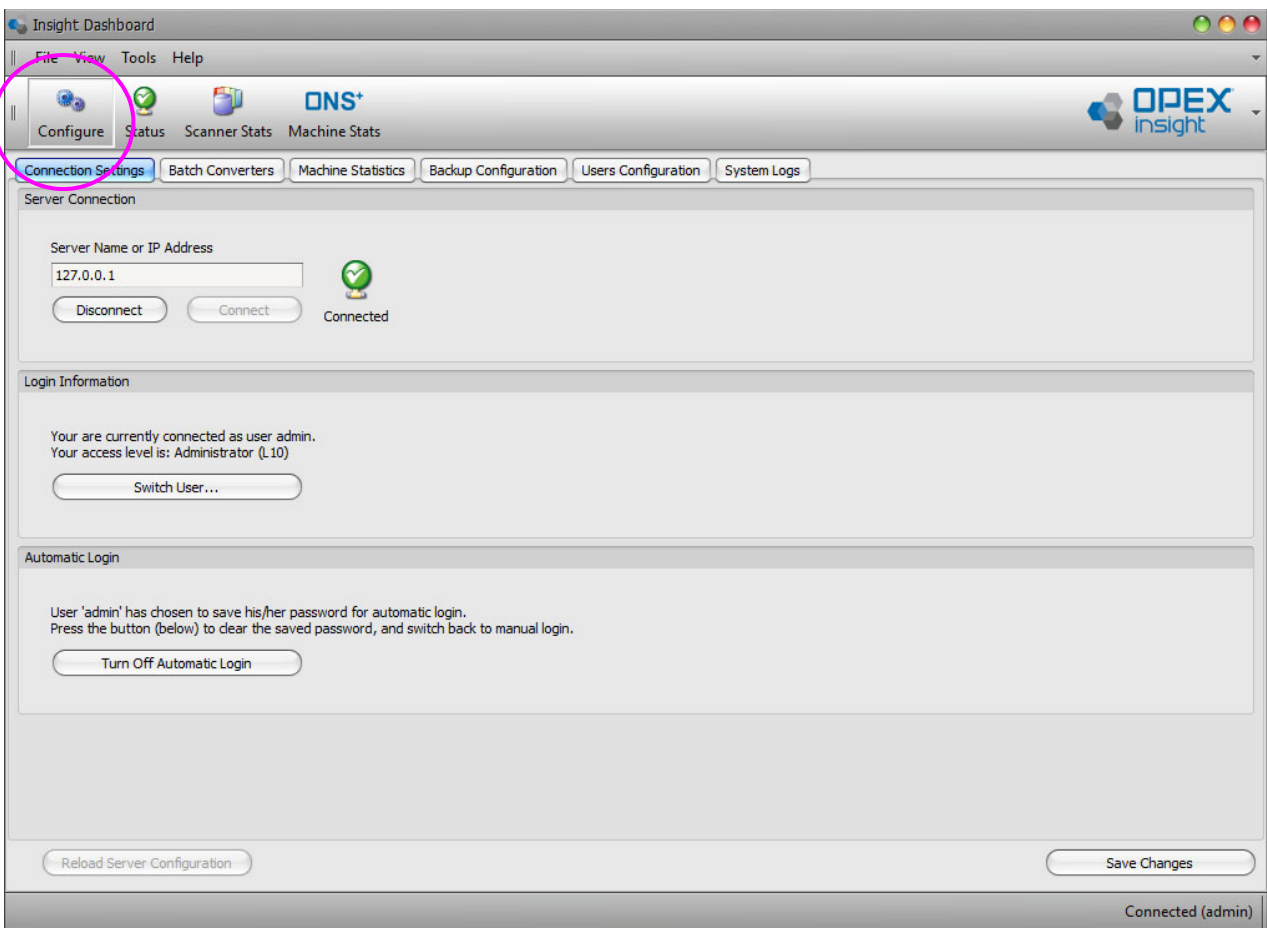

Figure 2-1: Configure Module
The Insight Dashboard Configure module allows system administrators and supervisors to adjust a variety of user-related system configuration settings. It also allows the OPEX Technician to adjust many of the more complex aspects of system configuration (Figure 2-1).
1. Click the **Configure** icon to enter the configure module (Figure 2-1).